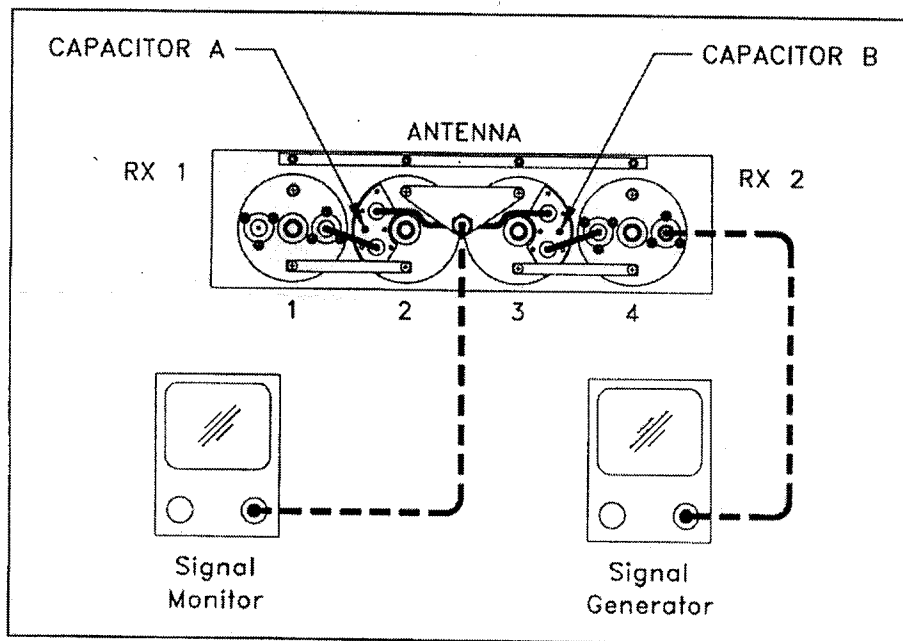

Figure 2
- (4) Connect the equipment to the diplexer as shown in Figure 2. Set the analyzer center frequency to the higher of the two receive frequencies.
- (5) Rotate the threaded rods on cavities 3 & 4 for maximum signal (minimum loss) into the analyzer at the pass frequency.
- (6) Remove the slotted dust cap from capacitor B and tune the capacitor to obtain rejection notches symmetrical about the center frequency as illustrated by Figure A.
- (19) Reconnect the equipment as shown in Figure 2 and terminate the "RX1" port with a 50 ohm load.
- (20) Set the center frequency of the analyzer to the reject frequency.
- (21) Tune capacitor B (on cavities 3) to obtain maximum rejection (notch) at the 929-932 MHz band. Take appropriate steps to increase the sensitivity/dynamic range of your analyzer system to accurately tune the rejection notch.